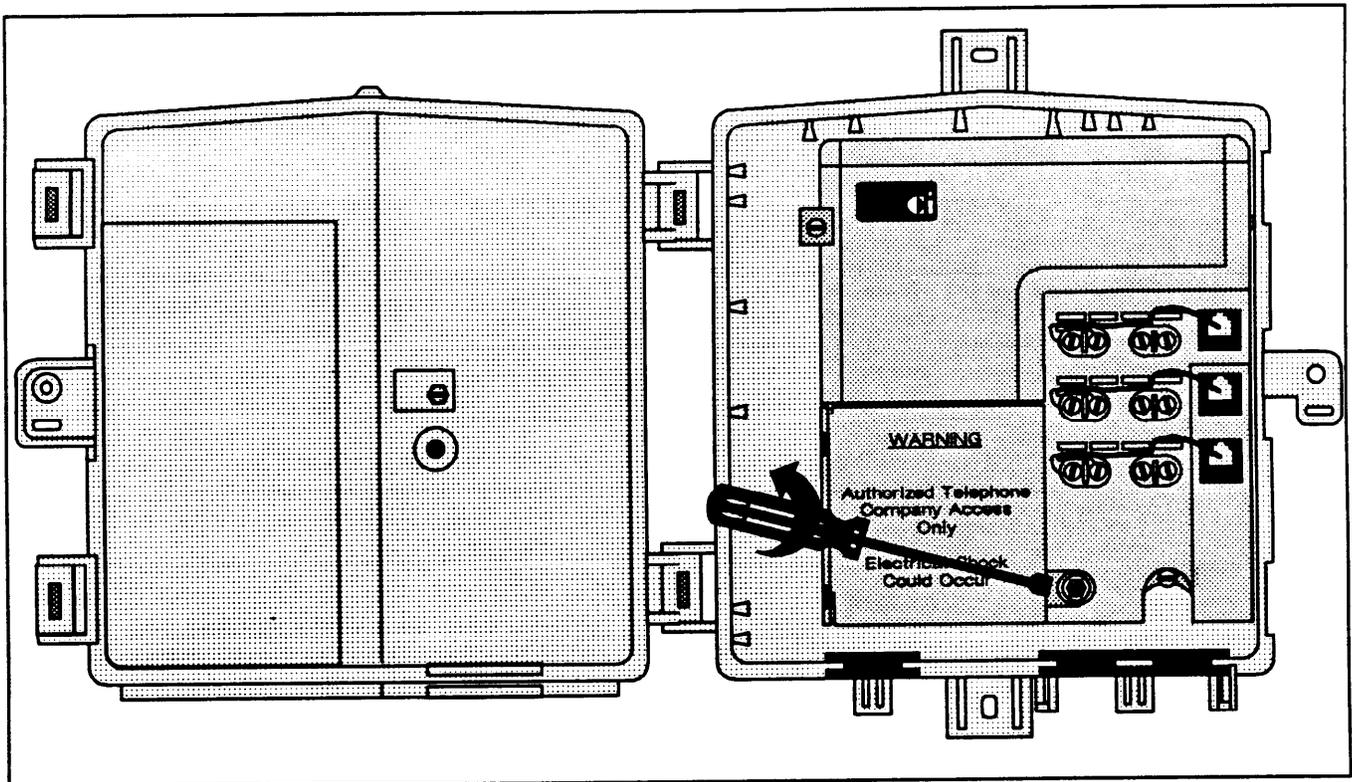
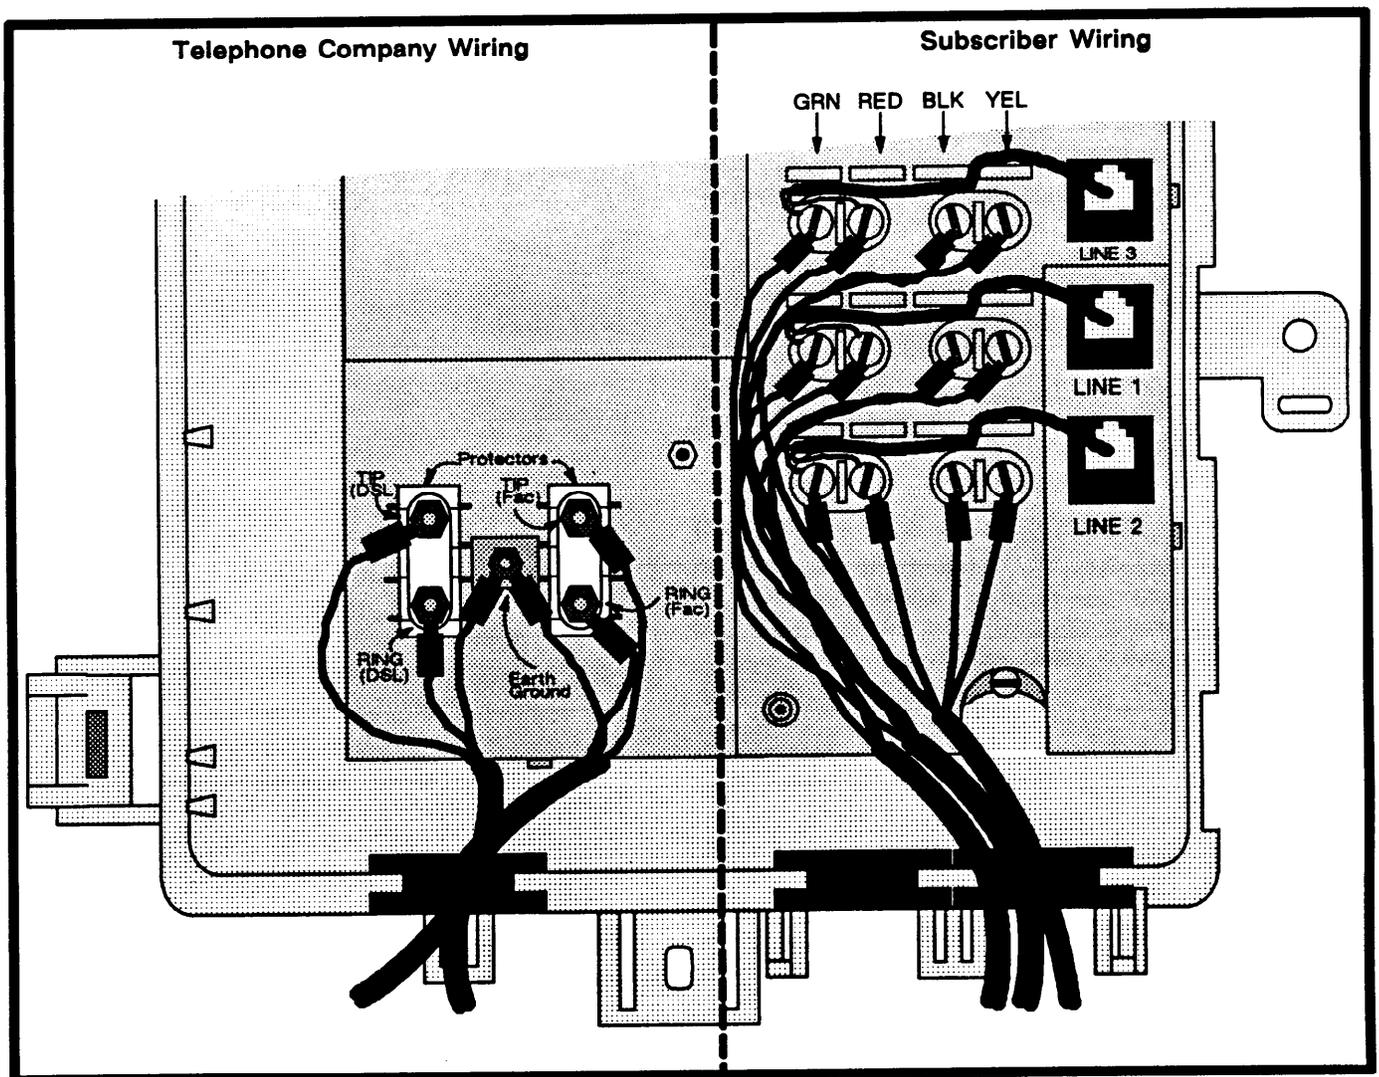

Figure 3. DDL104 in the Open Position
Figure 4. Partial Drawing of Remote Terminal Enclosure Showing Wiring
Using the 1/4-inch hex nut driver, open the TEL. CO. access cover by turning the hex screw counterclockwise until the enclosure cover can be opened. See Figure 3.
When mounting of the RT enclosure is completed, run the 2W Digital Subscriber Line cable, an earth ground wire, and the subscriber telephone lines (if required) to the RT mounting location. Refer to Figure 4.
Connect the 2W Digital Subscriber Line And Ground Cables (Refer To Figure 4).
- (1) If not already opened at this time, open the internal TEL. CO. access cover by turning the 1/4-inch hex nut counter-clockwise. Refer to Figure 3.
- (2) Pull the 2W Digital Subscriber Line and ground cables through the left side opening. Allow extra cable inside the enclosure for a service loop (this will provide strain relief).
- (3) Connect the 2W Digital Subscriber Line and ground cables to the protector unit terminals as shown in Figure 4. Tighten all terminal screw connections.
Connect the 2W Copper Facility Line And Ground Cables (Refer To Figure 4).
- (1) Pull the 2W Copper Facility cable and ground cables through the left side opening. Allow extra cable inside the enclosure for a service loop (this will provide strain relief).
- (2) Connect the 2W Copper Facility cable and ground cables to the protector unit terminals as shown in Figure 4. Tighten all terminal screw connections.
- (1) Pull the subscriber's telephone lines through the right side opening. Allow extra cable inside the enclosure for a service loop (this will provide strain relief).
- (2) Properly terminate the subscriber's telephone lines on the three terminal blocks as shown in Figure 4. Tighten all terminal screw connections.
- (6) Test LINE 3, the copper facility line, using standard POTS test procedures.
- (7) Close both the internal and external TEL. CO. access covers by reversing procedure in shown Figure 3.